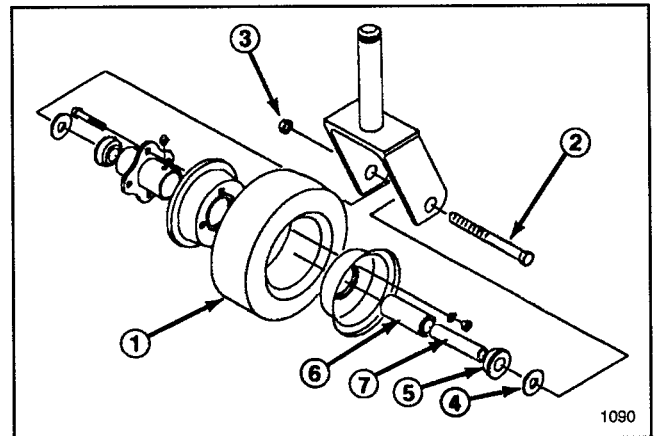

Figure 21
1. Remove lock nut and wheel bolt holding castor wheel between castor fork (Fig. 21).
4. Inspect bearing, spanner, bushing and inside of wheel hub for wear. Replace defective parts (Fig. 21).
5. To assemble place one (1) bushing into wheel hub. Grease bearing and spanner bushing and slide into wheel hub. Place second bushing into wheel hub.